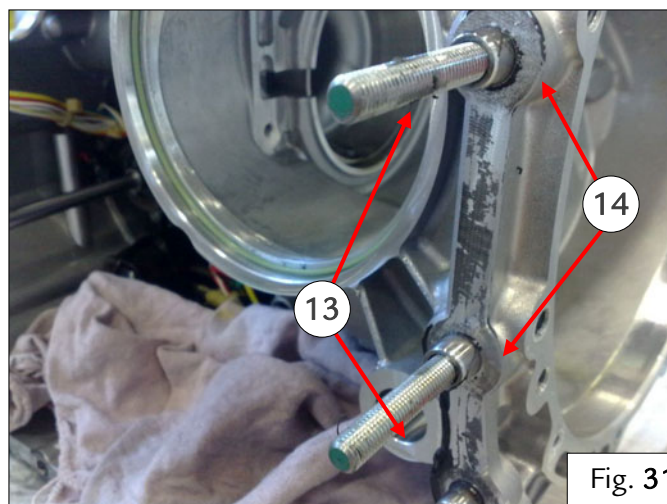

Fig. 31
- Remove the stud bolts (13) and the alignment bushes (14) from the differential housing, on the side in contact with the interface plate – Fig. 31.